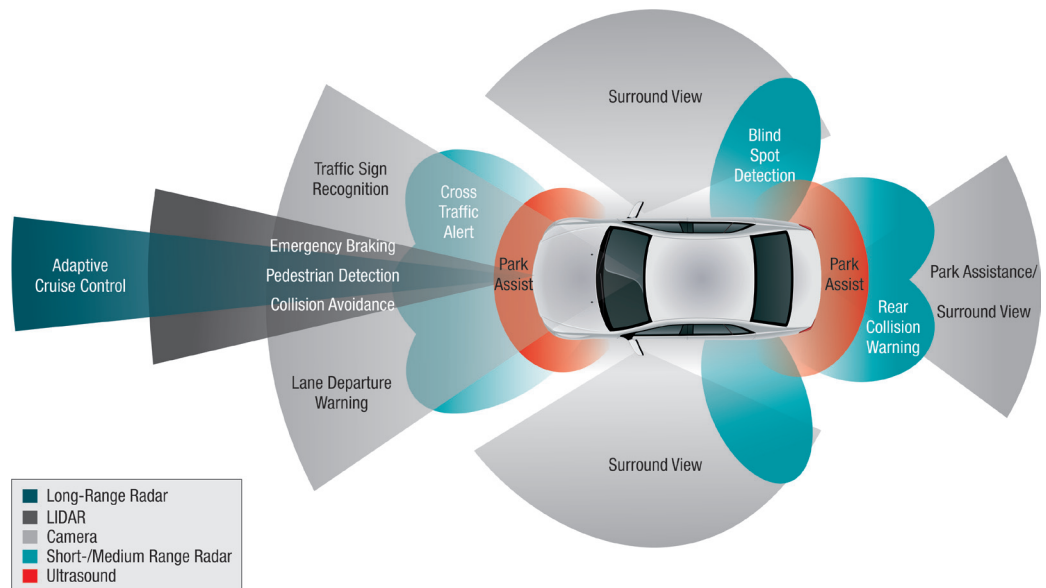

Figure 1: ADAS applications
ADAS systems use specialized processors and software to provide real-time information and feedback to drivers based on data captured from sensors positioned inside and outside of vehicle (see Figure 1 on the following page). ADAS systems are designed to increase the safety of the driver, passengers and pedestrians while also increasing the enjoyment and ease of the driving experience.
Surround view (SV) systems present a vast amount of useful information to the driver in real time, with minimum glass-to-glass latency. The 360° view as well as park assist and bird's-eye view allow the driver to be fully aware of vehicle's surroundings. For example, the system could allow a driver to see a bicycle that has been left behind a parked car or it can show how close the vehicle is getting to other vehicles when trying to park in a tight spot. In fully automated systems, the vehicle is able to use this information to actually park itself. SV systems increase the safety of operating vehicles by allowing drivers to see objects they might otherwise not see as well as make driving these vehicles easier and more fun. A surround view system typically consists of at least four cameras (front camera, two side cameras on each side of the car and a rear camera) as well as ultrasound sensors (see Figure 1 on page 2).
Figure 1 on page 2 illustrates different types of sensors used in ADAS systems. Once processing at the sensor level is complete, the high-level information can be sent to the central processor or sensor fusion box. The fusion box aggregates and interprets the combined high-level data from each sub-system (i.e., fusing information from front camera system, radar, etc.).
Let's look more closely at an example data flow for a surround view system. Most surround view systems use between four and six external high-resolution, high-dynamic range video inputs. For LVDS-based surround view, this translates to the processor requirement to support four or more camera inputs wider than 8 bits/pixel. For a surround view system with four cameras, one camera is forward facing and located near the grill at the front of the car, one would be rear facing located on the trunk or hatch of the vehicle, and two are located on the sides of the car, typically one on each side-view mirror (see Figure 1 on page 2). With a minimum of four cameras, a surround view system is able to interpret and display a full 360° top view image around the vehicle.